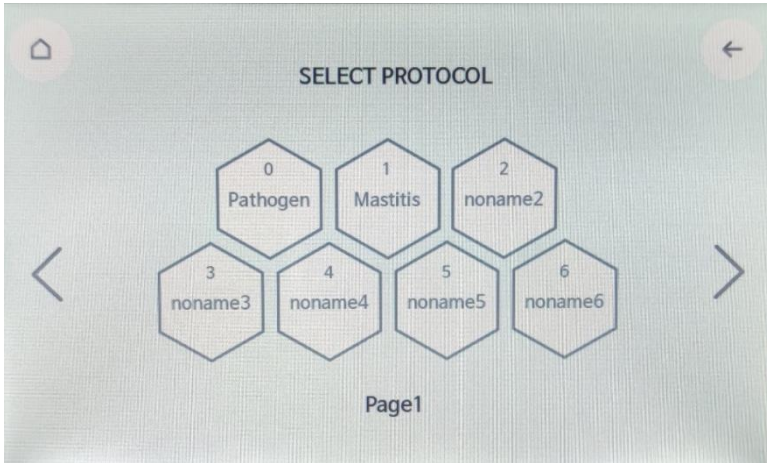

Figure 12. Protocol Selection Menu of the IndiMag 48s touchscreen interface. List of protocols programmed into the machine.
3. Tap the button corresponding to the desired protocol (see Figure 12 for reference). The Heater Setting menu will open.